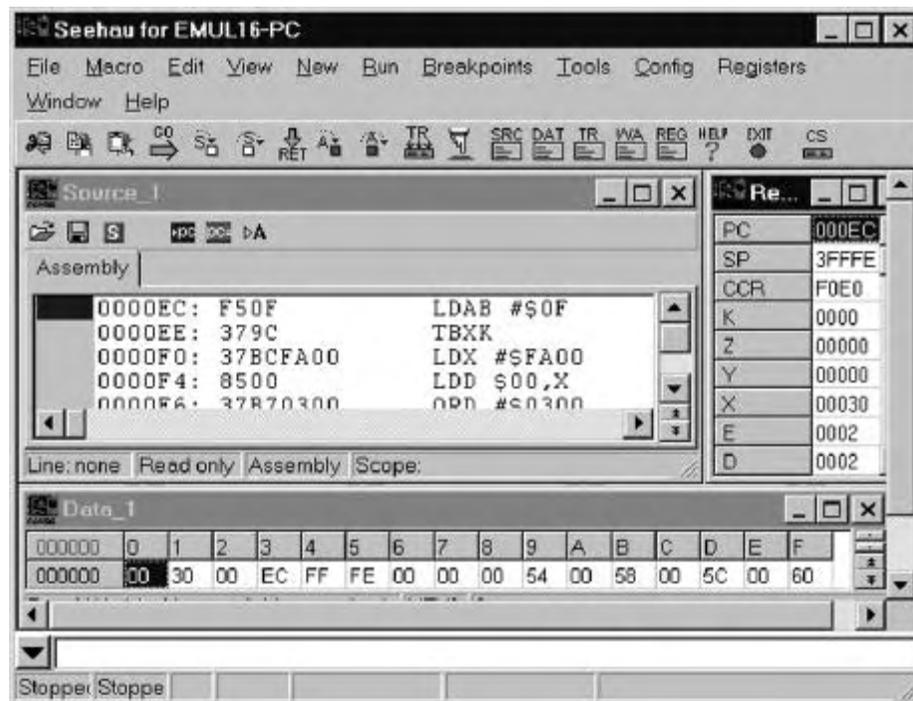

Figure 57. Seehau for EMUL16/300-PC
2. When the software startup is complete, you can position and resize the main window to your preference. Figure 57 shows how the Seehau software will appear when first started up.